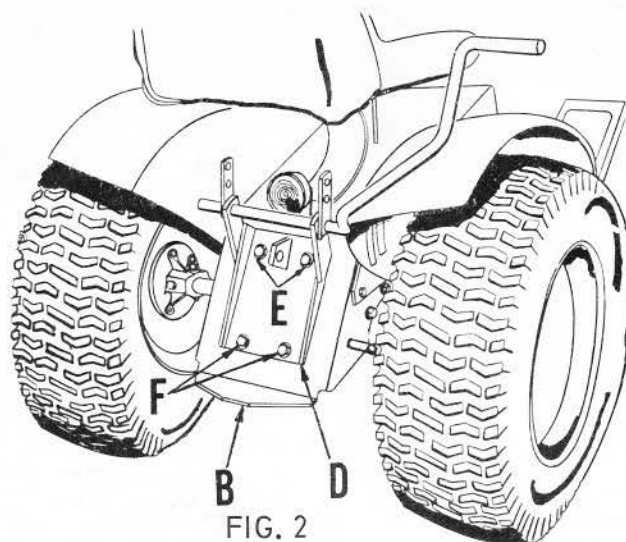

FIG. 2
3. Refer to Fig. 2. Assemble hitch mounting assembly with lever (D), to tractor drawbar (B), using two 1/2 x 1 1/4 hex bolts and lockwashers (E). Use upper holes in hitch mounting assembly (D), and upper holes in drawbar (B). NOTE: Lockwashers must be next to head of bolts.
4. Assemble two 7/16 x 1 1/4 hex bolts (F), thru lower holes in hitch mounting assembly (D), and drawbar (B). Secure with 7/16 lockwashers and hex nuts.